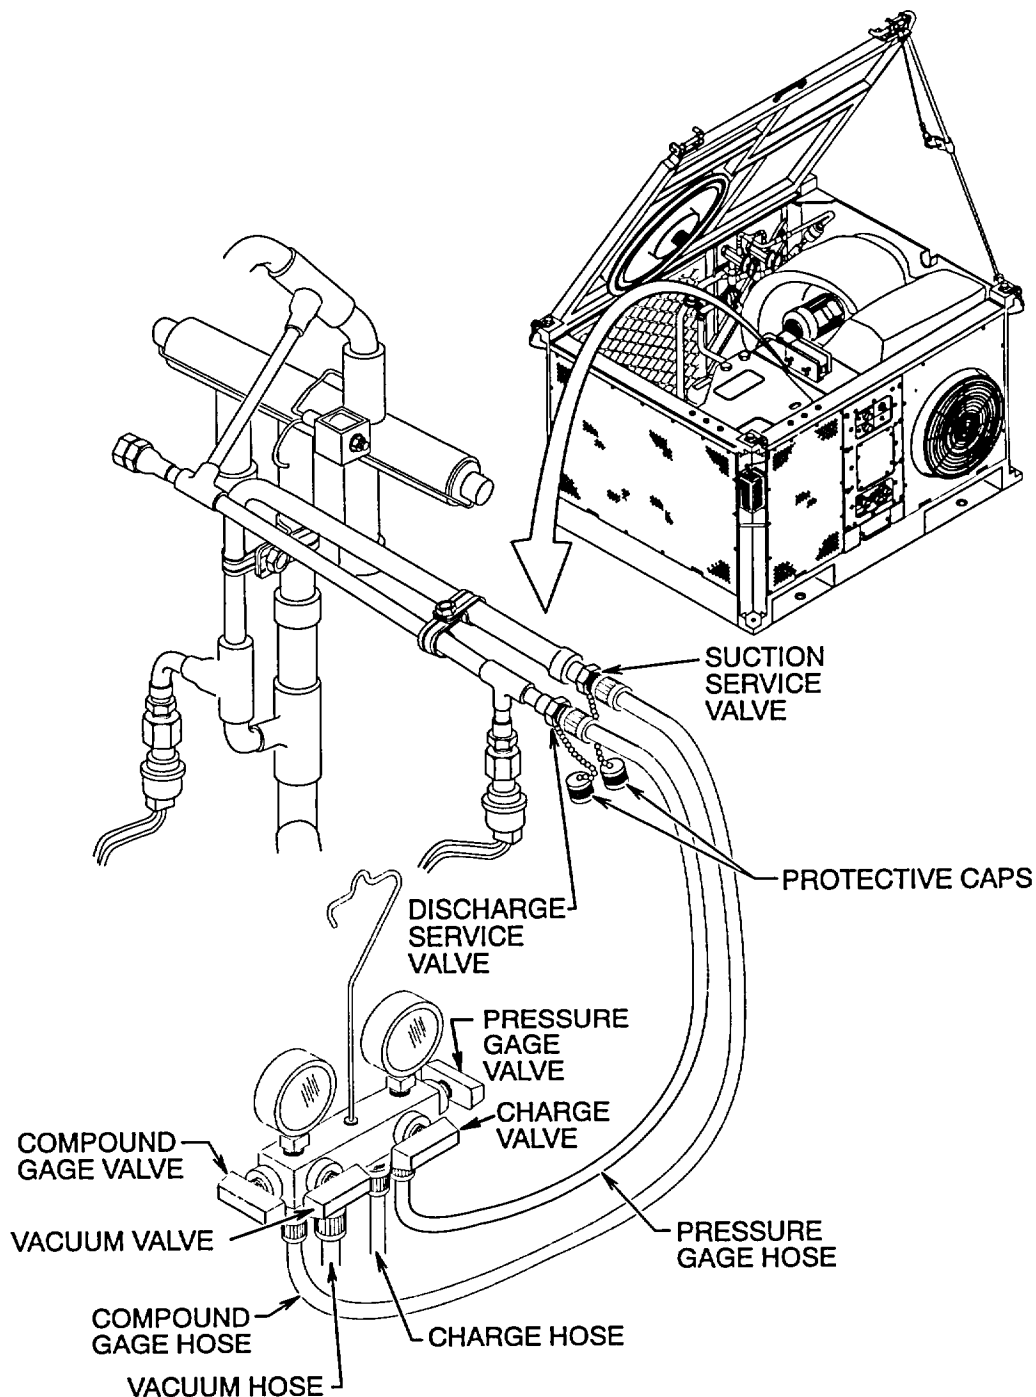

Figure 5-2. Service Manifold Installation
a. **Installation.** See figure 5-2.
b. Removal. See figure 5-2.
- (1) Check that all four service manifold valves are closed.
- (2) Disconnect service manifold pressure gage hose from discharge service valve and compound gage hose from suction service valve.
- (3) Open service manifold charge valve. Operate recovery unit and allow refrigerant to purge from hoses.
- (4) Close service manifold valves.
- (5) Shut down recovery unit.
- (6) Disconnect service manifold charge hose from recovery unit.
- (7) Install two protective caps.
- (8) Close and secure cover.